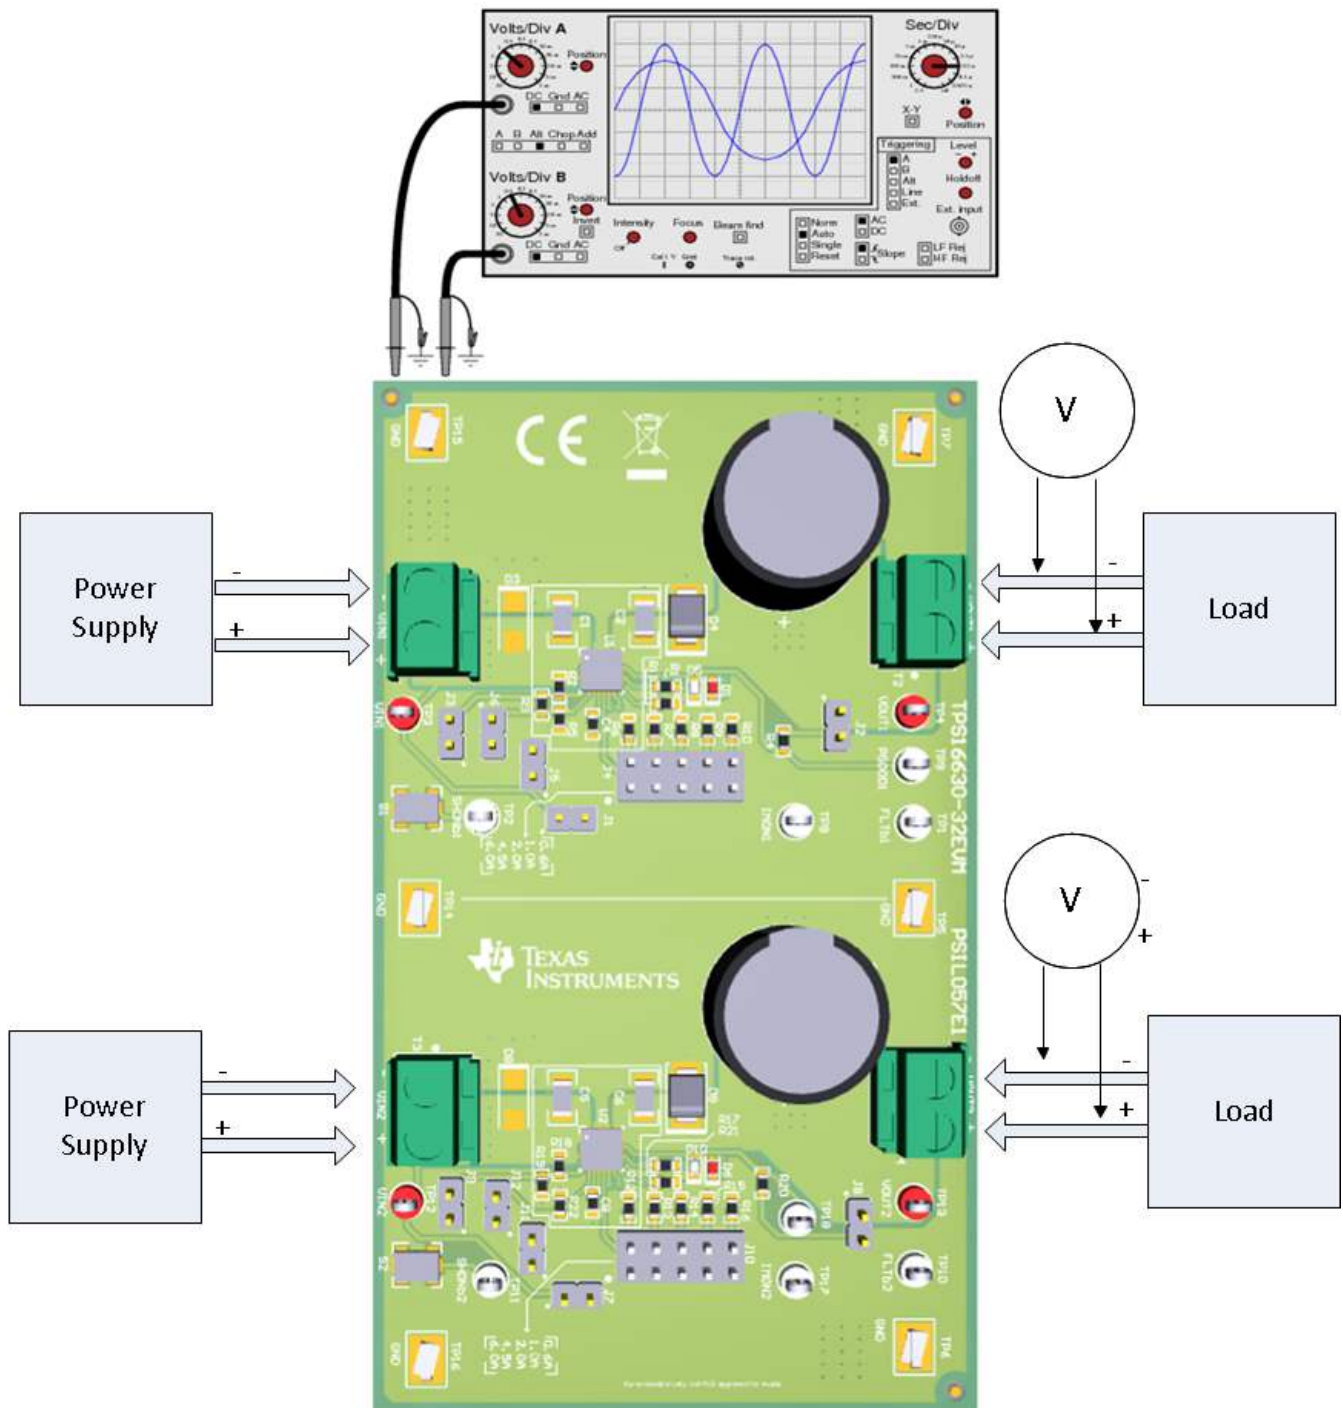

Figure 1. EVM Test Setup
The TPS16630-32EVM enables full evaluation of the TPS1663x devices. This EVM has two independent channels (CH1 and CH2) where two devices can be evaluated together. CH1 is configured to test OVP cut-off version TPS16630 and CH2 is configured to test OV clamp and power limit version TPS16632. Input power is applied at T1 (CH1) and T3 (CH2) while T2 (CH1) and T4 (CH2) provide the output connections to the load respectively. Refer to the schematic in Figure 7 and EVM test setup in Figure 1. S1 and S2 allow U1 and U2 to be reset or disabled and Jumper J4 and J10 allow current limit setting to be changed.
Figure 1 shows the typical test setup for the TPS16630-32EVM. Connect T1/T3 to the power supply and T2/T4 to the load.
3. Disable the power supply, load and hook up the TPS16630-32EVM assembly as shown in Figure 1